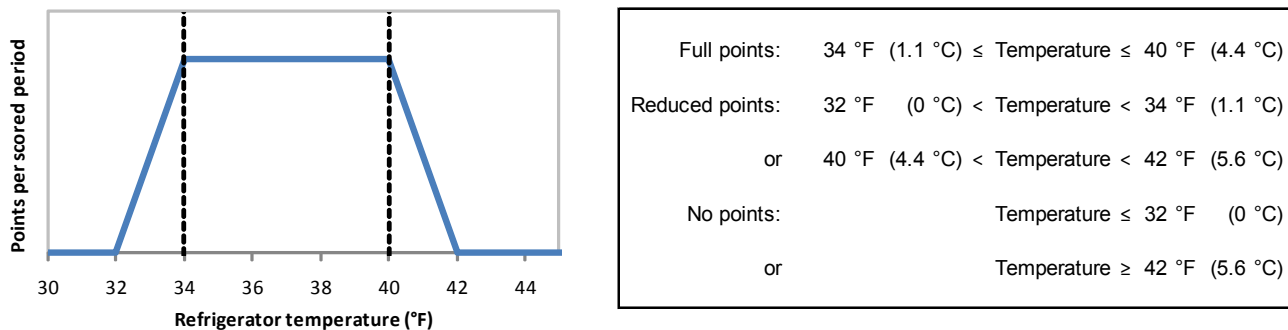

Figure 6: Scoring function for the Refrigerator Subcontest
- Reduced points are earned if the time-averaged interior refrigerator temperature is between 32.0°F (0.00°C) and 34.0°F (1.11°C) or between 40.0°F (4.44°C) and 42.0°F (5.56°C). Reduced point values are scaled linearly, as shown in Figure 6.